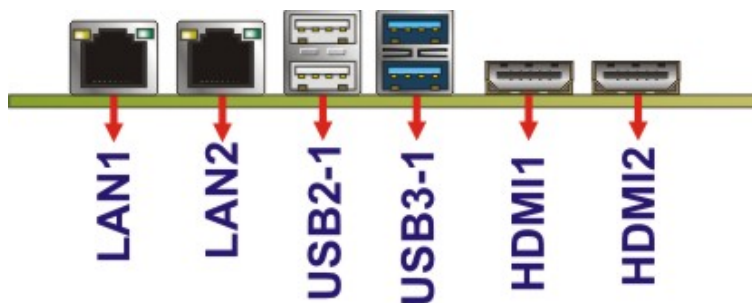

Figure 3-34: External Interface Connectors
See Figure 3-34
- CN Location:** See **Figure 3-34**